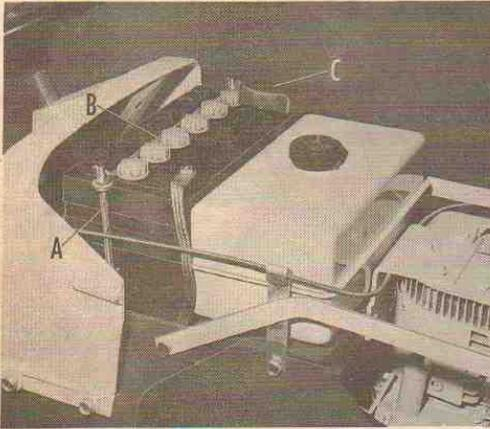

FIG. 3
5. Be sure terminal cover (C, Fig.3) is in place on positive terminal.